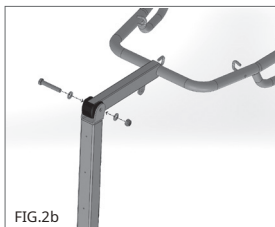

FIG.2b
4. Attach and fasten the hinge between the column and the arm with the supplied screws (Fig.2b)